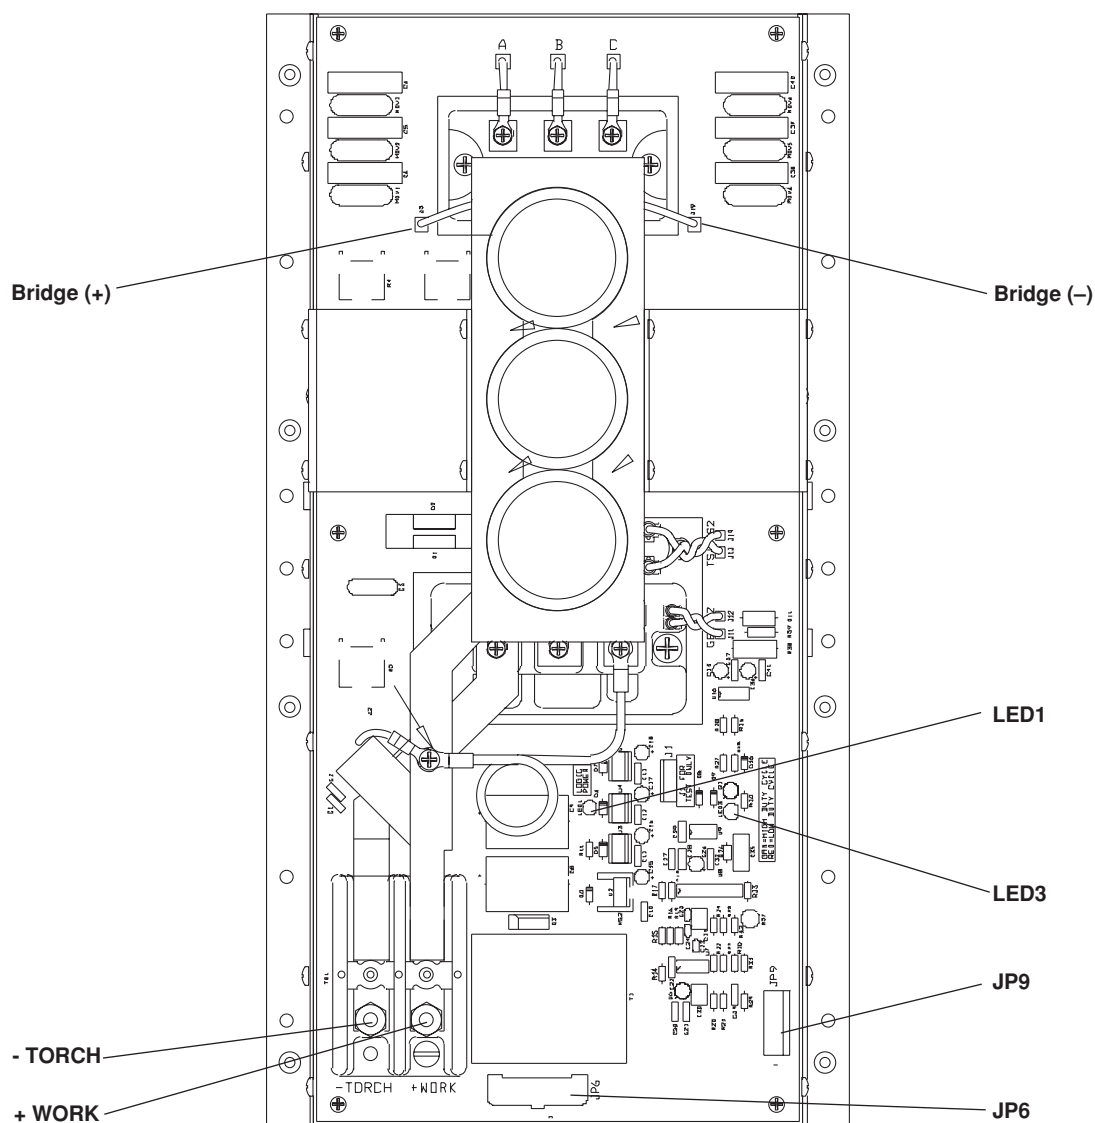

Figure 5-4 Chopper Module – Front View
3. Place the positive lead to the + side of the bridge and the negative lead to the – side of the bridge. See Figure 5-4. Note that actual connection points are hidden by cap support bracket in Figure 5-4.